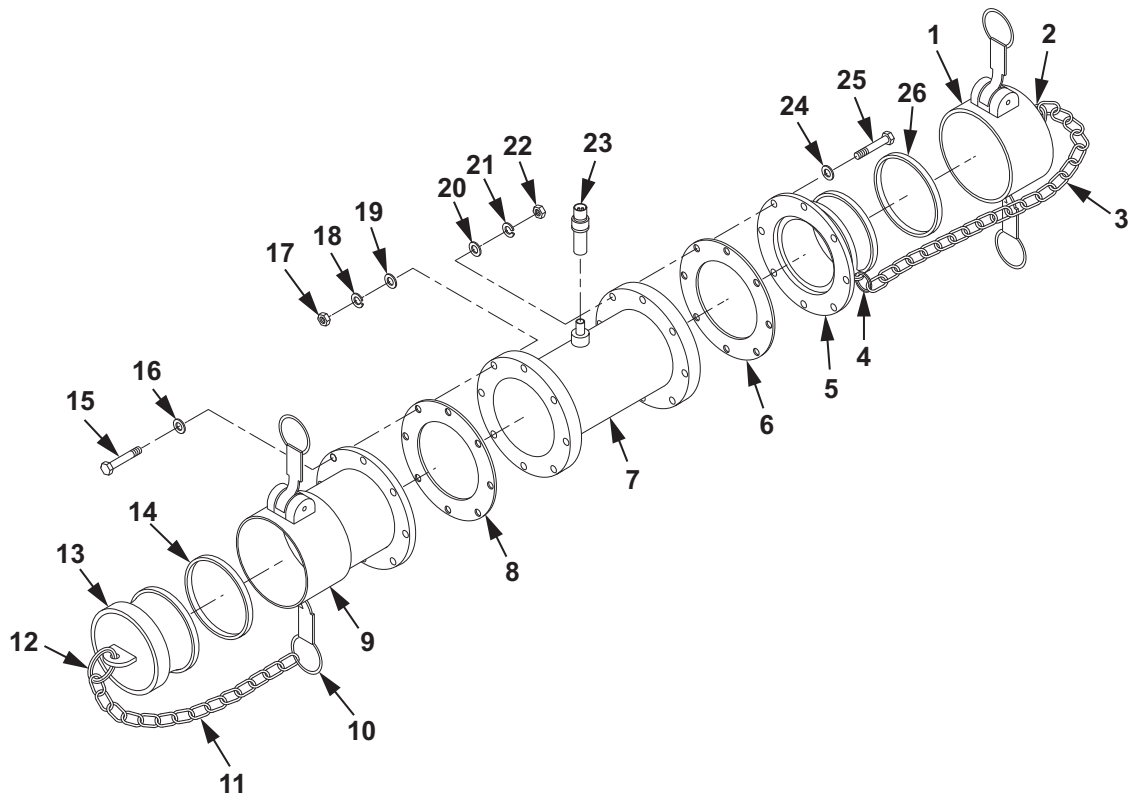

Figure 3. Tank Input Volume Meter Assembly.
1. Position new gasket (Figure 3, Item 8) and female coupling (Figure 3, Item 9) on flowmeter (Figure 3, Item 7).
2. Install eight washers (Figure 3, Item 16), screws (Figure 3, Item 15), washers (Figure 3, Item 19), new lockwashers (Figure 1, Item 18) and nuts (Figure 1, Item 17) on female coupling (Figure 3, Item 9) and flowmeter (Figure 3, Item 7). Hand tighten eight nuts (Figure 3, Item 17).
3. Using torque wrench and adapter, torque eight nuts (Figure 3, Item 17) to 90–110 ft lb (122–149 N•m).
4. Position new gasket (Figure 3, Item 6) and male coupling (Figure 3, Item 5) on flowmeter (Figure 3, Item 7).
5. Install eight washers (Figure 3, Item 24), screws (Figure 3, Item 25), washers (Figure 3, Item 20), new lockwashers (Figure 1, Item 21) and nuts (Figure 1, Item 22) on male coupling (Figure 1, Item 5) and flowmeter (Figure 3, Item 7). Hand tighten eight nuts (Figure 1, Item 22).
6. Using torque wrench and adapter, torque eight nuts (Figure 3, Item 22) to 90–110 ft lb (122–149 N•m).
1. Position magnetic pickup (Figure 3, Item 23) into flowmeter (Figure 3, Item 7).
2. Hand tighten magnetic pickup (Figure 3, Item 23) by turning in a clockwise direction.
1. Position new gasket (Figure 3, Item 14) and quick disconnect dust plug (Figure 3, Item 13) on female coupling (Figure 3, Item 9).
2. Install split ring (Figure 3, Item 12) on quick disconnect dust plug (Figure 3, Item 13).
3. Install split ring (Figure 3, Item 12) on chain (Figure 3, Item 11).
4. Install split ring (Figure 3, Item 10) on chain (Figure 3, Item 11).
5. Install split ring (Figure 3, Item 10) on female coupling (Figure 3, Item 9).
6. Position new gasket (Figure 3, Item 26) and quick disconnect dust cap (Figure 3, Item 1) on male coupling (Figure 3, Item 5).
7. Install split ring (Figure 3, Item 4) on chain (Figure 3, Item 3).
8. Install split ring (Figure 3, Item 2) on chain (Figure 3, Item 3).
9. Install split ring (Figure 3, Item 4) on male coupling (Figure 3, Item 5).
10. Install split ring (Figure 3, Item 2) on quick disconnect dust cap (Figure 3, Item 1).